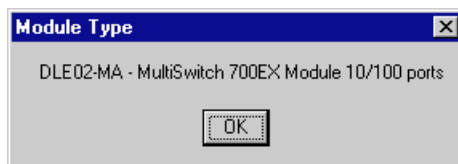

Figure 2-9. Sample Module Type Text Box
2. Select **Module Type**. A Module Type text box (similar to the example shown in Figure 2-9) opens, describing the module type.